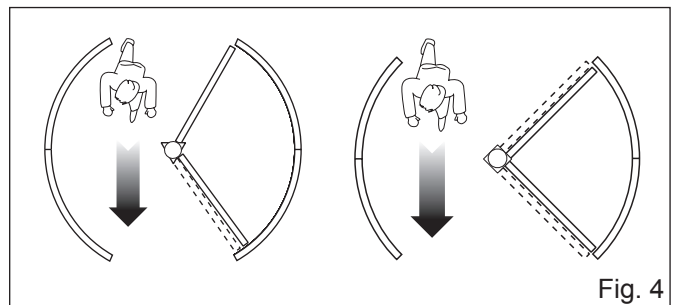

Fig. 4
- if there is an EAST collapsing system, free the passage by collapsing the door wing (fig. 4).